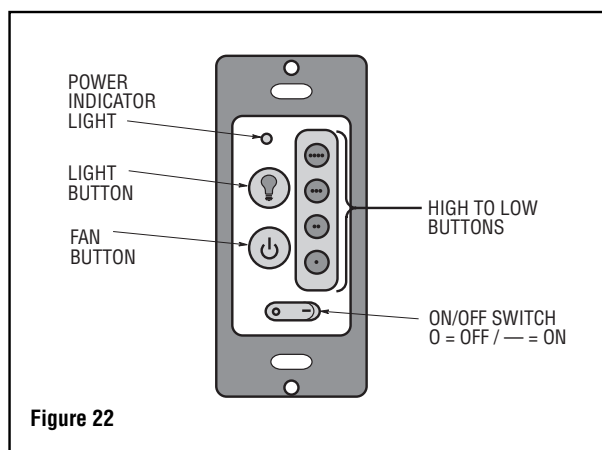

Figure 22
16. To turn the light on and off, press and release the LIGHT (Ⓛ) button. To set the light intensity, press and hold the LIGHT (Ⓛ) button. The light will turn on at the light intensity previously selected (Figure 22).